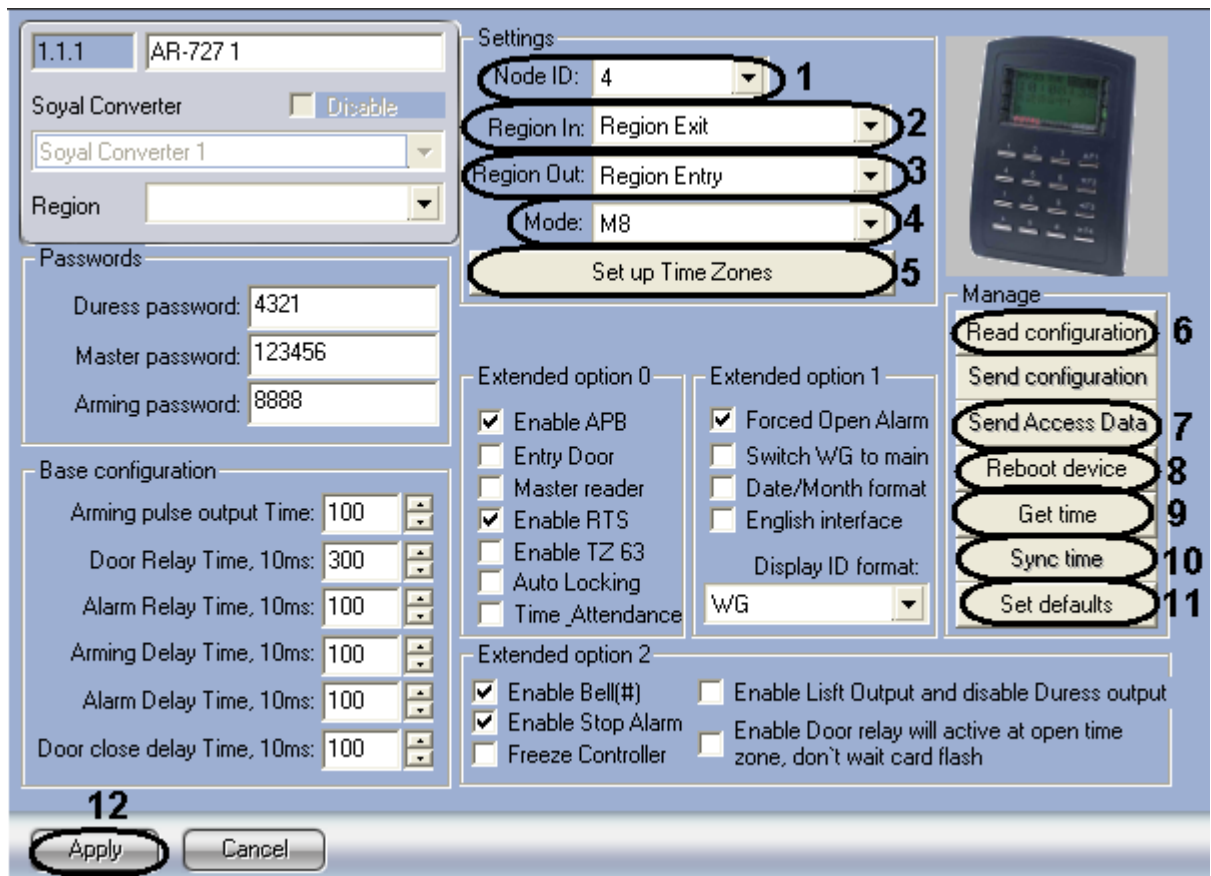

Figure 2.7—2 Setting panel of AR-727 controller
2. From the **Node ID** drop-down list select the ID of *Soyal AR-727* controller (Figure 2.7—2, 1).
3. From the **Region In** drop-down list select the **Area** located in the site of exit through this reader (Figure 2.7—2, 2).